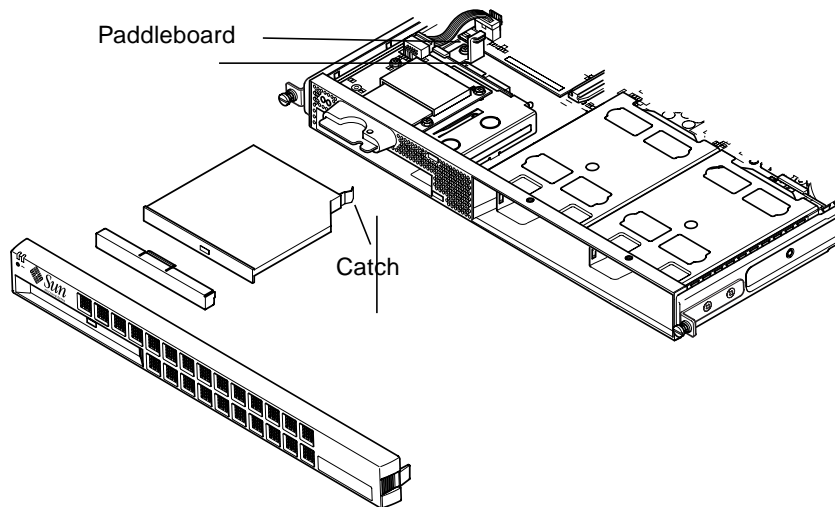

FIGURE 4-5 Installing an Internal CD-ROM Drive
4. Carefully insert the CD-ROM drive into its enclosure (see FIGURE 4-5), making sure that the catch at the rear of the CD-ROM drive clicks onto the chassis.
Guide the CD-ROM drive in making sure that its connectors align with, and then engage with, the connectors on the CD-ROM paddleboard (see FIGURE 4-5) at the back of the CD-ROM enclosure. You may need to hold the paddleboard by the black IDE connector to guide the CD-ROM drive home.